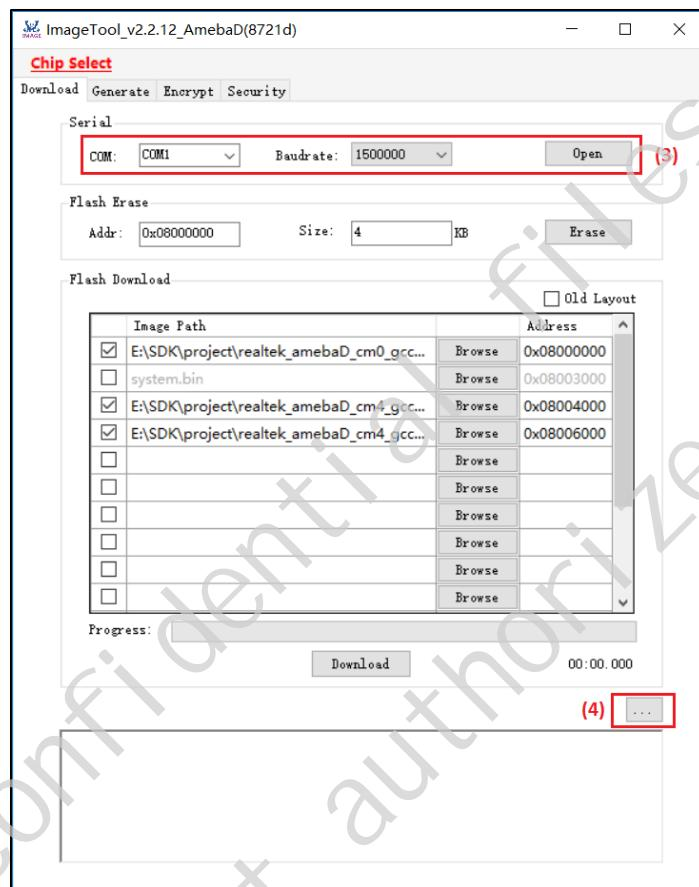
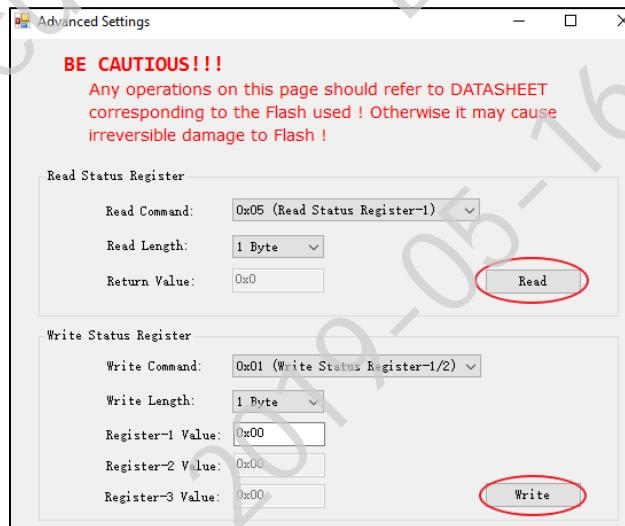

Fig 8-5 'Advanced Settings' window
Fig 8-6 Flash status operation
- (1) Check the Read/Write Status Register Command and Sequence according to the flash datasheet. Notice that different flash IC would have different sequence.
- (2) Get Ameba into UART_DOWNLOAD mode as introduced in section 8.3.1.
- (3) Select the corresponding serial port and open it.
- (4) Click **Advanced Settings** button in Fig 8-5, and the **Advanced Settings** window shown in Fig 8-6 popups.